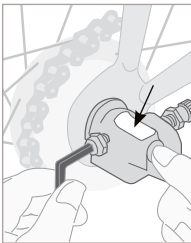

FIGURE 3.14
2. Check the alignment. The line on the push rod should align with the indicator on the bell crank window (Figure 3.14). To change the alignment, turn the barrel-adjuster.